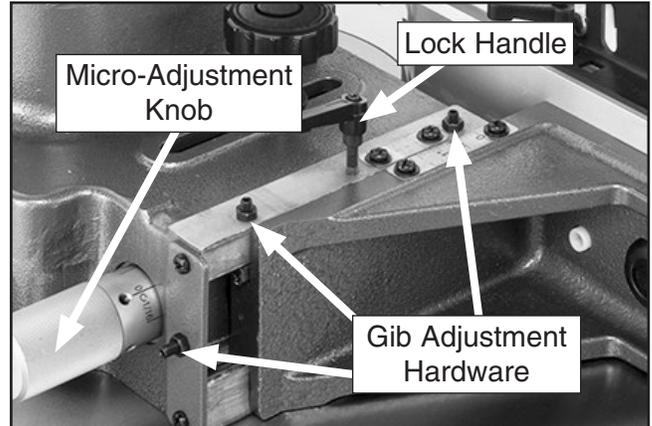

Figure 70. Gib adjustment settings location.
1. Unlock both fence lock handles and turn both microadjustment knobs fully counterclockwise (see **Figure 70**).
2. Loosen gib adjustment set screws and hex nuts on fence or fences that do not display "0" (see **Figure 70**).